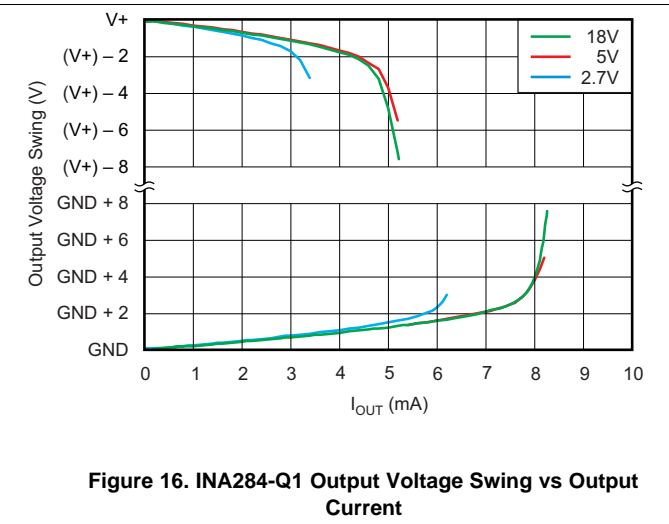

Figure 16. INA284-Q1 Output Voltage Swing vs Output Current
(6) See typical characteristic graphs Figure 16 through Figure 18.